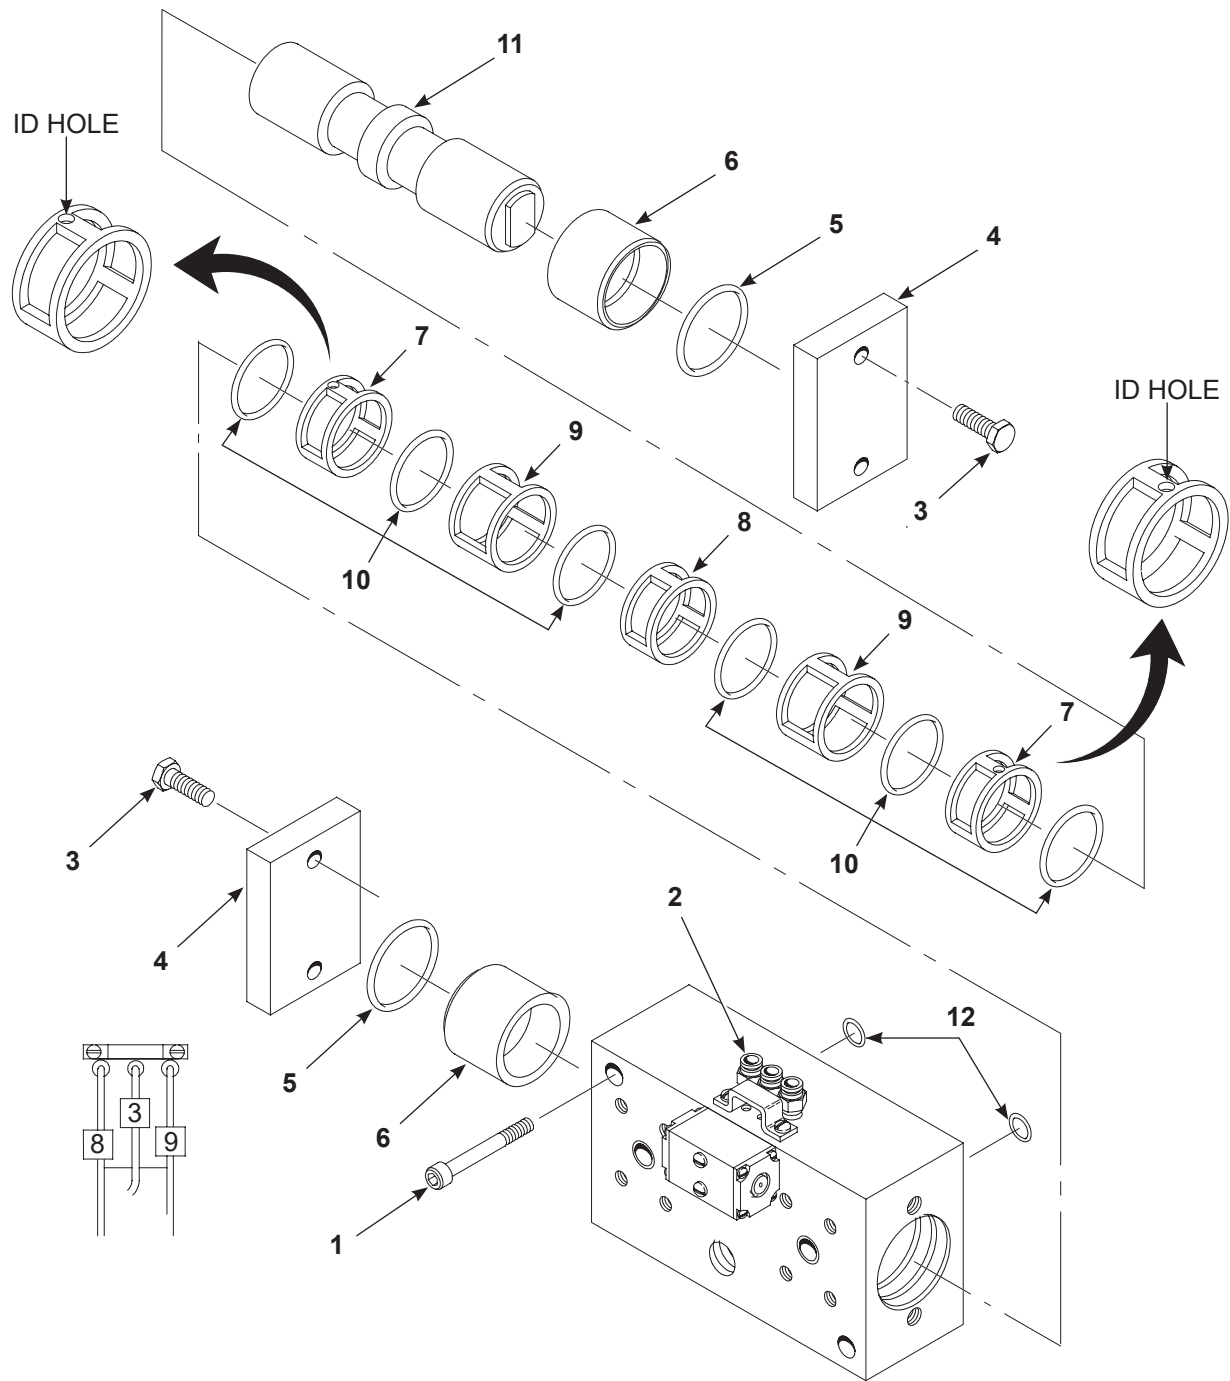

Figure 6-9 Air Valve Repair
1. See Figure 6-9. Disconnect the tubing from the connectors (2).
2. Remove the screws (1) that secure the air valve to the pump.
3. Remove and discard the valve mounting O-rings (12) that are between the valve body and the upper head.
4. Remove the screws (3) that secure the end plates (4).
5. Remove and discard the end plate O-rings (5).
6. Carefully push out the spool (11) from the valve bore.
7. Remove the spacers (6, 7, 8, 9) and O-rings (10) from the valve bore. Discard the O-rings.
1. See Figure 6-9. Thoroughly coat the new O-rings (5, 10, 12) and valve bore with low temperature grease.
2. Insert spacers (7, 8, 9) and O-rings (10) into the greased valve bore as illustrated. Note the position of the ID holes in the exhaust spacers (7).
3. Thoroughly grease the spool (11) with low temperature grease and insert it into the valve bore.
4. Insert an end spacer (6) into each end of the valve bore with the chamfer pointing out, as illustrated.
5. Install the end plate O-rings (5) into each end of the valve bore, against the end spacers' chamfers (6).
6. Apply VC-3 threadlocking compound onto the screw threads. Secure the end plates (4) with the screws (3). Tighten the screws securely.
7. Install the valve mounting O-rings (12) to the upper head.
8. Install the air valve onto the pump using its screws (1). Tighten the screws securely.
9. Connect the tubing to its connectors (2). See the Tubing Diagram on page 5-8 in the Troubleshooting section.